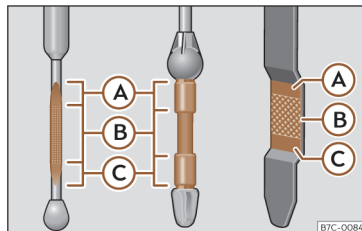

Fig. 220 Engine oil dipstick.
- Then pull it out once more and check the oil level»» Fig. 220. Top up with engine oil if necessary.
- When the oil level reaches at least zone >>> **Fig. 220 (B)**, unscrew the engine oil filler cap carefully >>> **ⓘ**.
If the oil level is above area >>> **Fig. 220 (A)**, do not start the engine. This could result in damage to the engine and catalytic converter. Contact a specialised workshop.
The oil level must never be above zone >>> **Fig. 220 (A)**. Otherwise oil can be drawn in through the crankcase breather and leak into the atmosphere via the exhaust system.